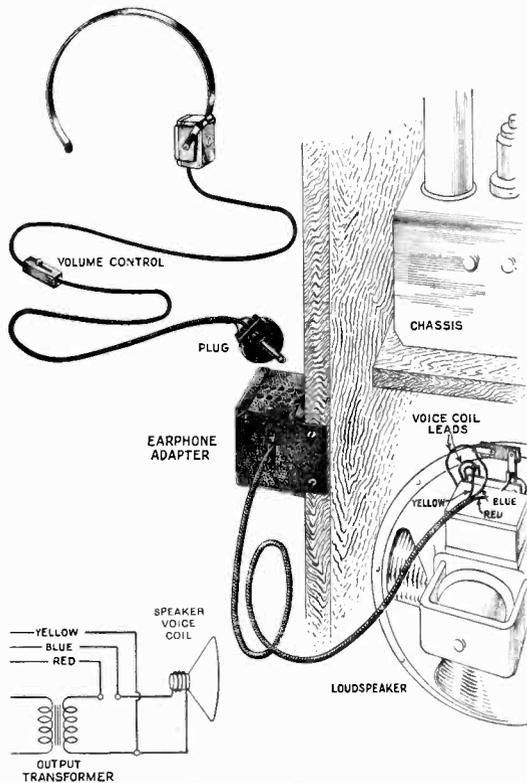

Figure 1—Typical Installation
A typical installation of the RCA "Earphone Adapter" is shown in Figure 1. The adapter box is intended to be attached to the radio cabinet at the rear, in a position convenient for inserting the plug of the RCA Sonotone hearing aid or headphones. This box may be located on either side of the cabinet, although the mounting plate should be reversed when attached to the left-hand side (viewing front), so that the label will be below the plug receptacle. The mounting plate is secured to the box by means of two machine screws which can be removed easily for reversing the plate. Two wood screws are furnished separately for fastening the assembly to the cabinet.
**Connections**—A three-conductor cable extends from the rear of the "Earphone Adapter" for connection to the radio loudspeaker. The three cable wires are color coded for easy identification and should be connected as shown in the schematic diagram of Figure 1. First, disconnect one end of the loudspeaker voice coil from the output transformer secondary winding, then attach the adapter cable wires as follows:
- (1) Red wire to open end of output transformer secondary.
- (2) Blue wire to open end of voice coil.
- (3) Yellow wire to connection between opposite end of voice coil and output transformer secondary.